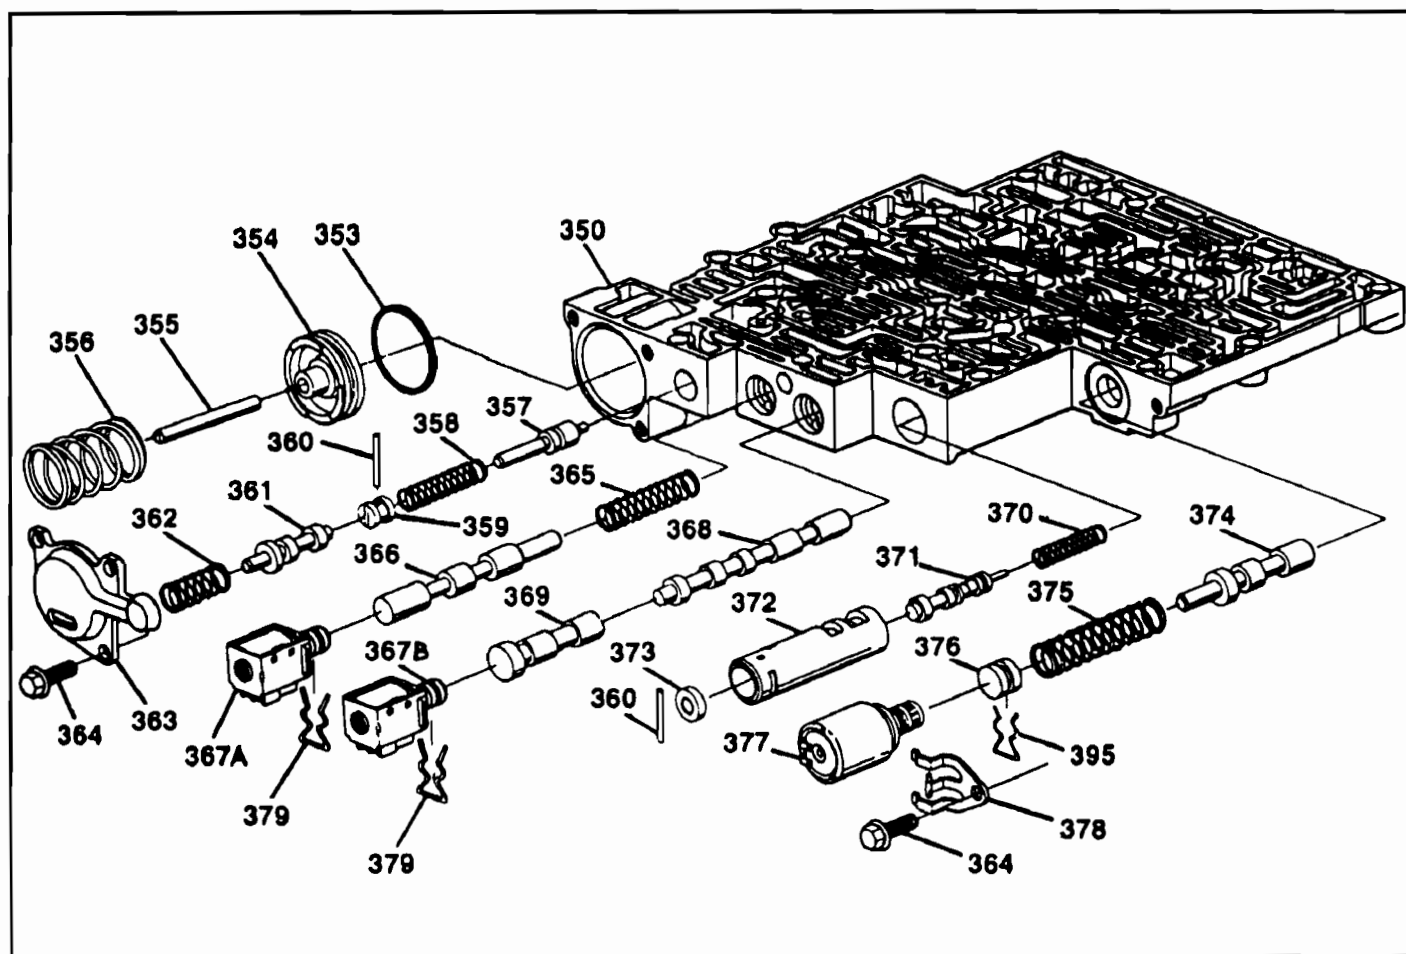

Figure 23
**CORRECTION:** There is now available a new calibration service package consisting of a 1-2 accumulator valve, valve spring, and 1-2 accumulator valve bushing for the valve body. These are items 370, 371, and 372, as shown in Figure 23 below. This new service package is available under OEM part number 24202698.